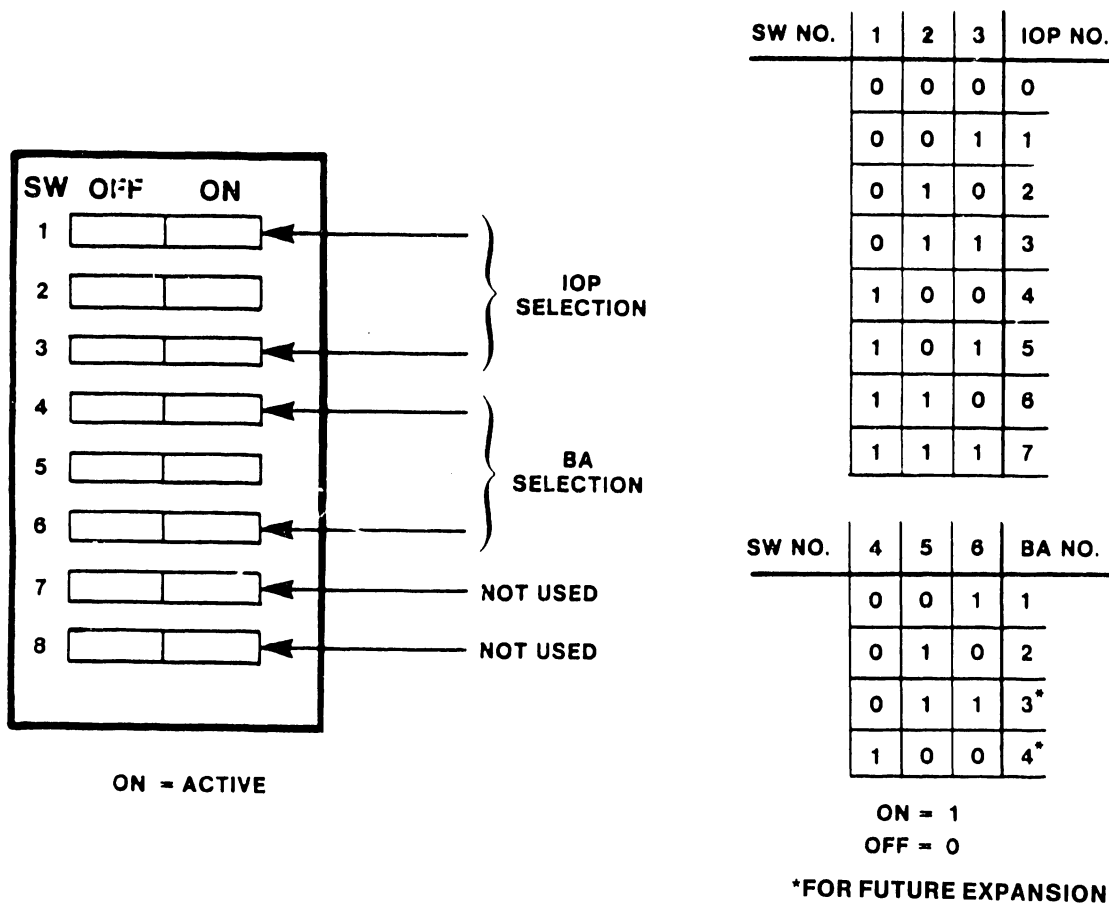

Figure K-3. TCP/IOP Board Switch Settings
3. Ensure that the switch settings, on the 210-7826 TCP/IOP motherboard to be inserted, are correct (see figures K-3 and K-4).